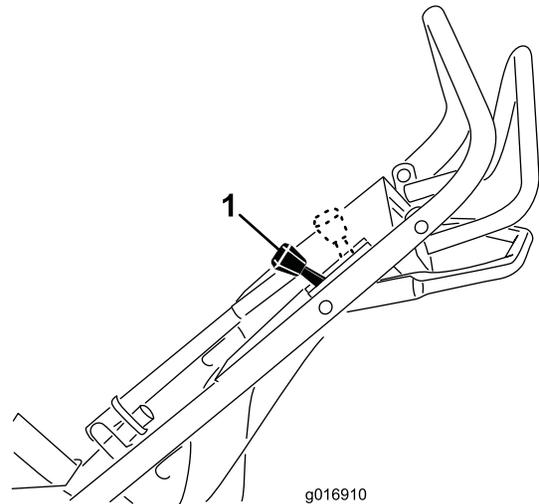

Figure 10
3. Move the throttle control all the way forward to the Choke position (Figure 10).